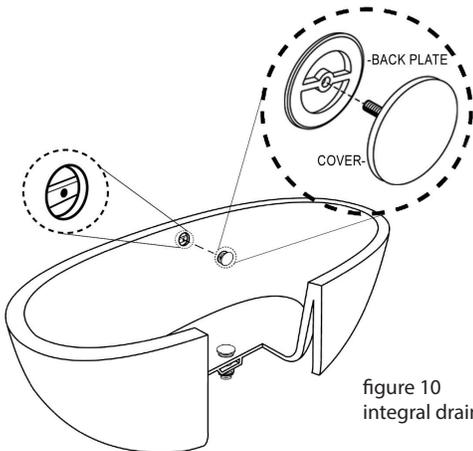

figure 10
- Place the Back Plate over the screw of the overflow cover (figure 10).